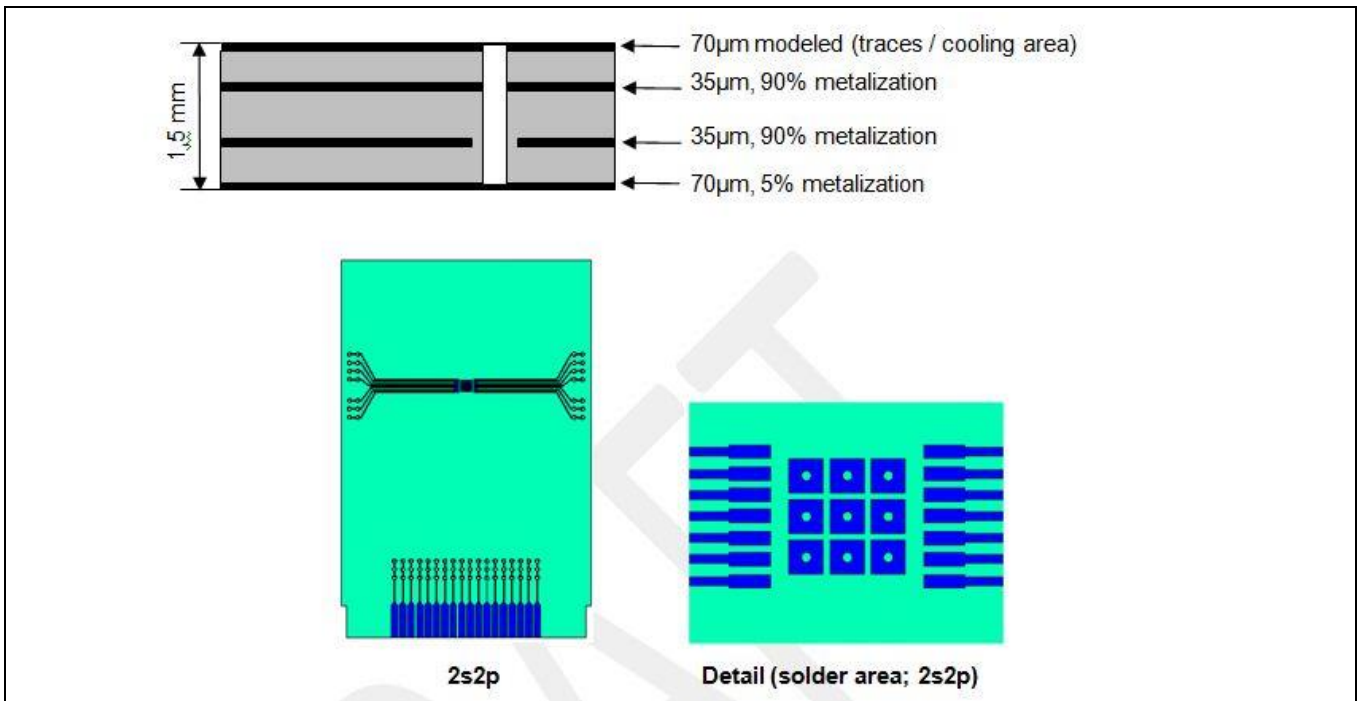

Figure 58 JESD51 2s2p PCB configuration
- Junction to Ambient 2s2p: See Figure 58. This is the case where the PCB consists of a top and bottom layer of 70um copper, 2 inner layers of 35um copper and a matrix of thermal vias connecting the exposed pad of the device to the first inner layer.